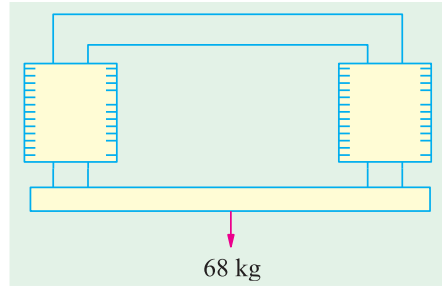

Fig. 8.7
**Solution.** Horse-shoe magnet is shown in Fig. 8.7.